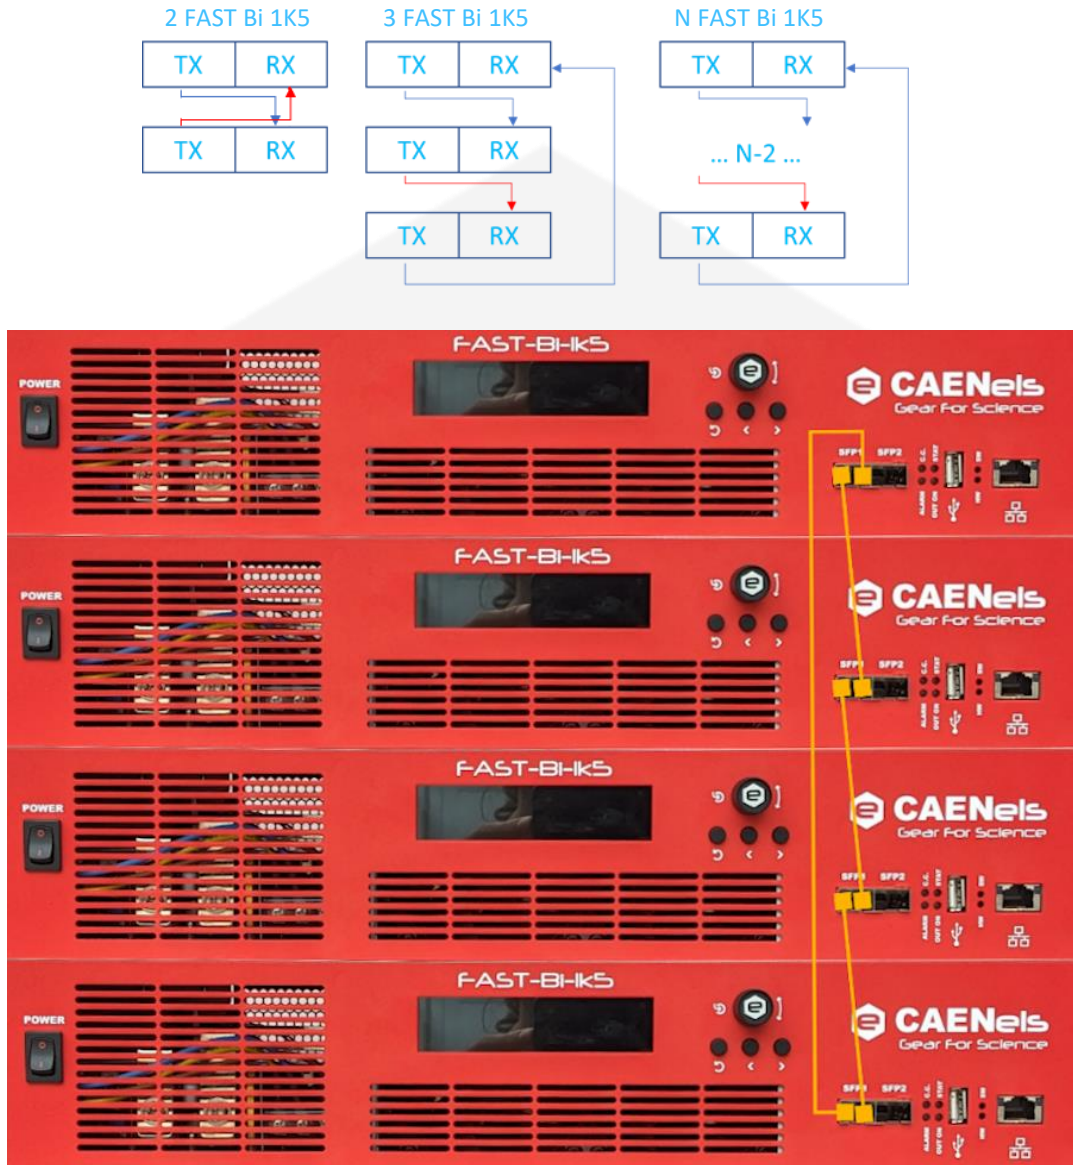

Figure 33: Parallel configuration, front panel.
- **Figure 33** (orange lines);